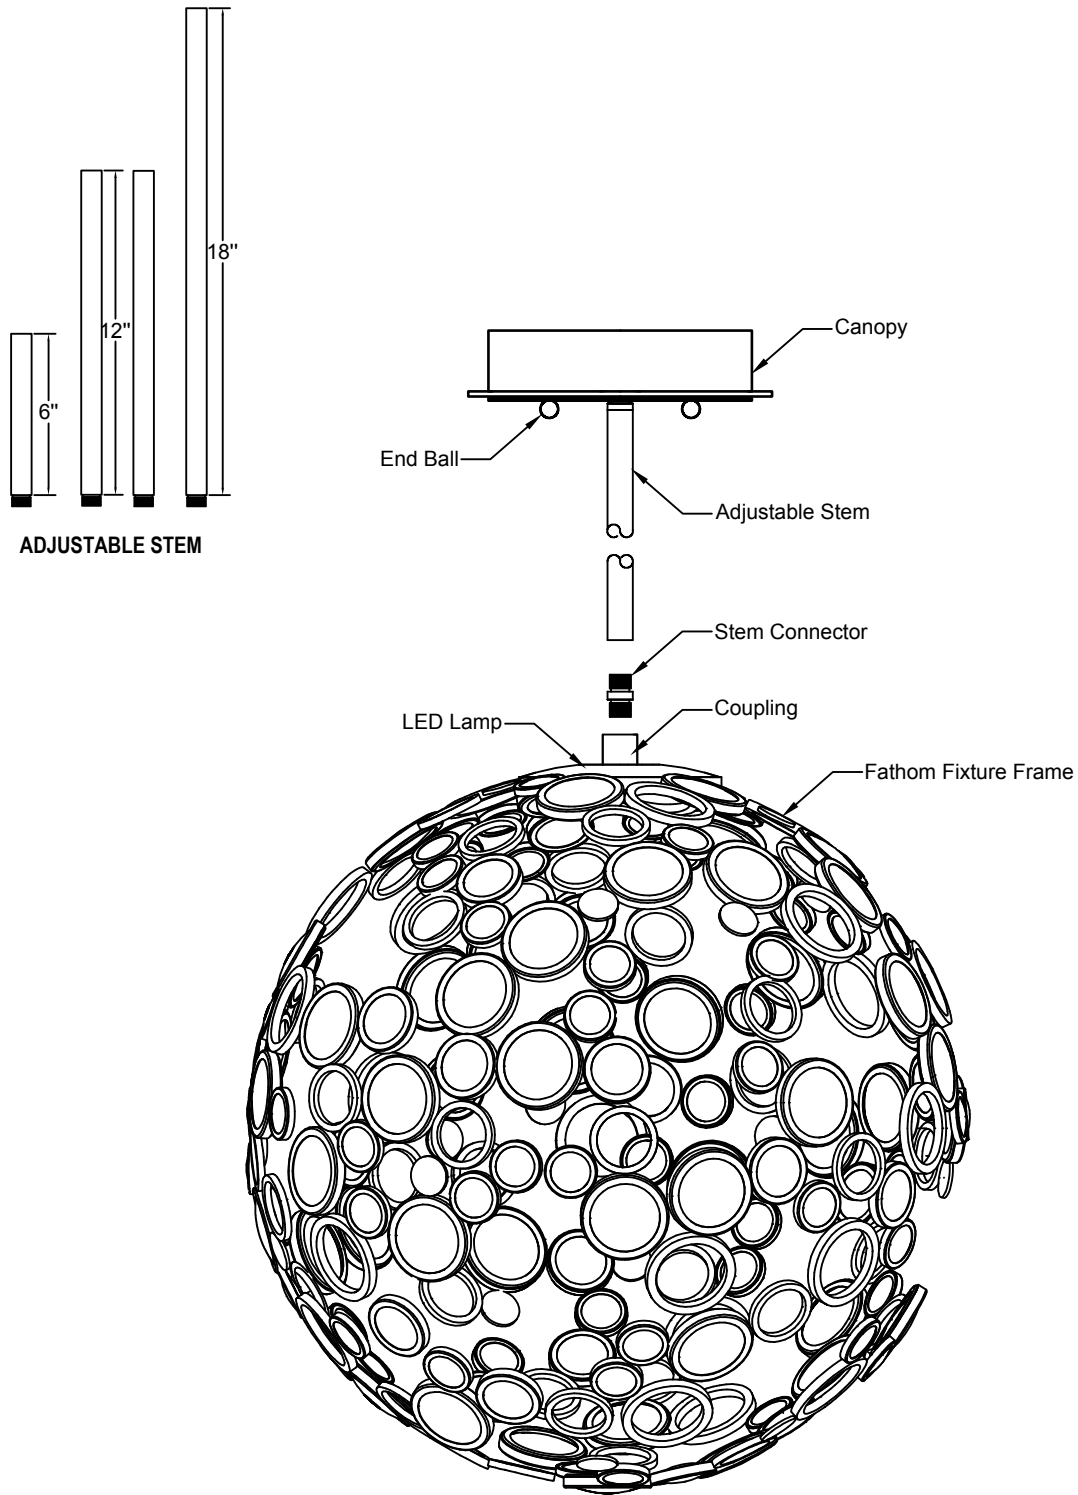

FIGURE-3
- This fixture is supplied with a 4-pcs. stem. There is one 6" section, two 12" section and one 18" section. This feature allows the fixture to be mounted with a stem up to 48" in length in 6" increments (See Figure-3).